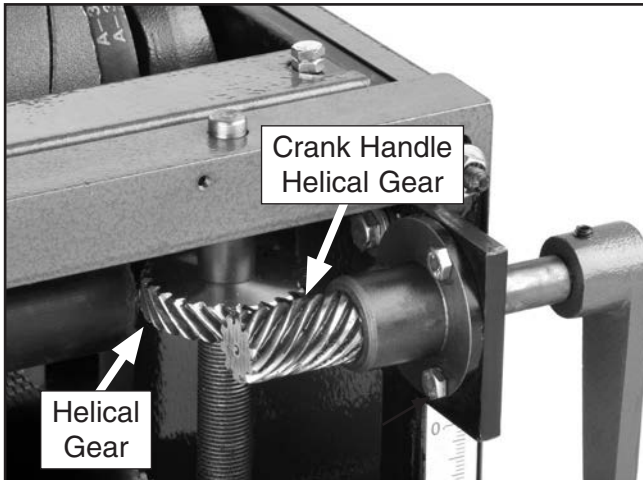

Figure 52. Helical gear and crank handle helical gear.
33. Before re-installing the gear box cover, try raising and lowering the conveyor table with the crank handle. If the helical gears (see **Figure 52**) are not engaged, the crank handle will only raise the table.